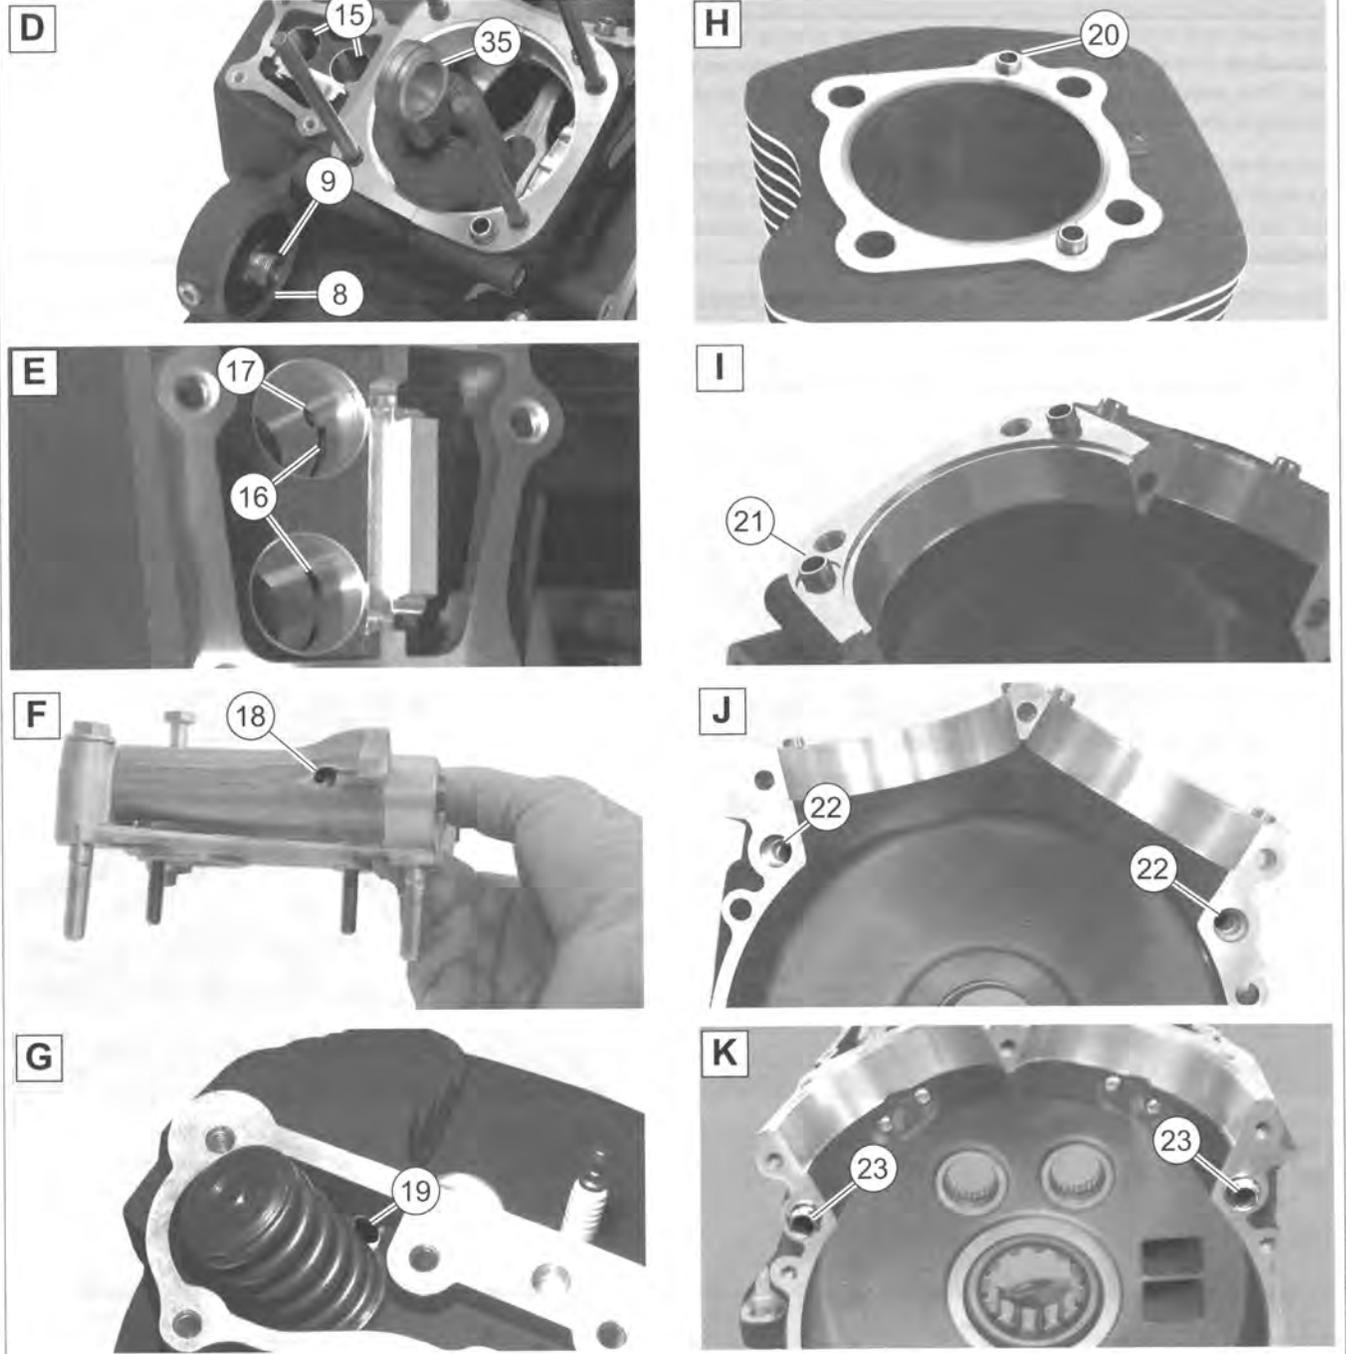

Figure 3-2. Engine Oil Flow: Top End
- Top end oil flow is shown in Figure 3-2.